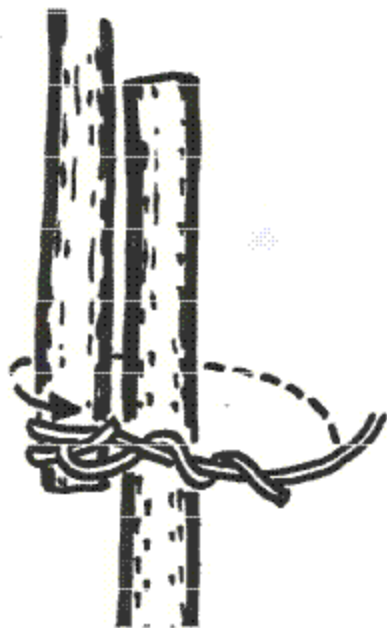

FIGURE 10
1. Start this lashing with a CLOVE HITCH (see FIGURE 10), then wrap the excess (short end) around the STANDING part of the rope.